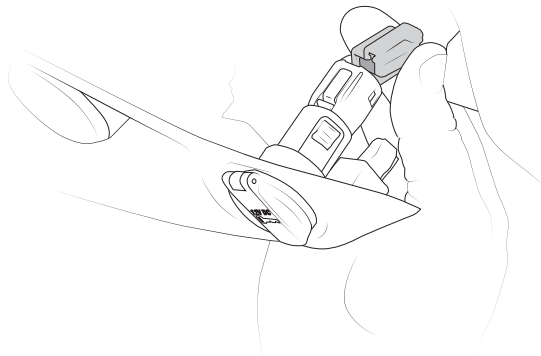

Figure 5
15. Remove the lower switch panel, and then unplug the power plug from the 12 volt outlet\* (fig. 5).